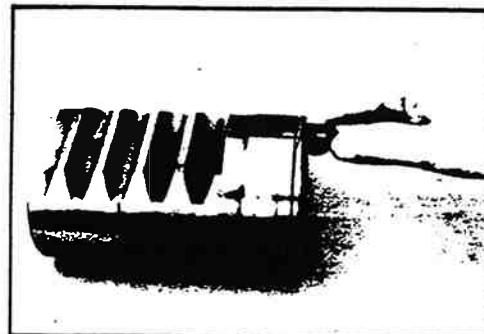

Figure 11-43. O-ring Removal.
40. Remove and discard the rack piston backup O-ring (16) (figure 11-43) from the rack piston.